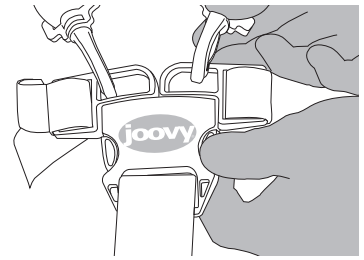

Figure 23
- Ensure that both shoulder straps are attached to the waist strap buckles. See Figure 23.